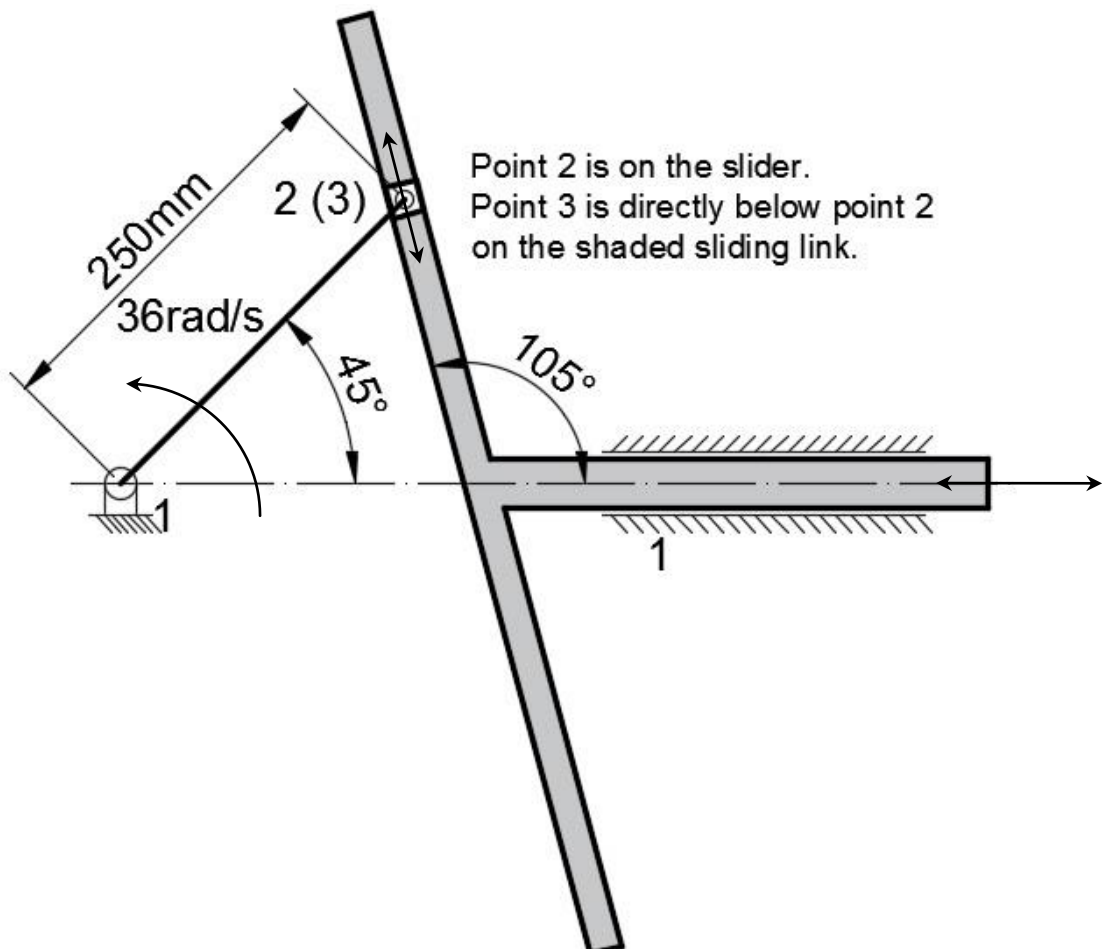

Figure 1
1. Find the absolute velocity of the **shaded** sliding link using a velocity polygon for the mechanism given in Figure 1.